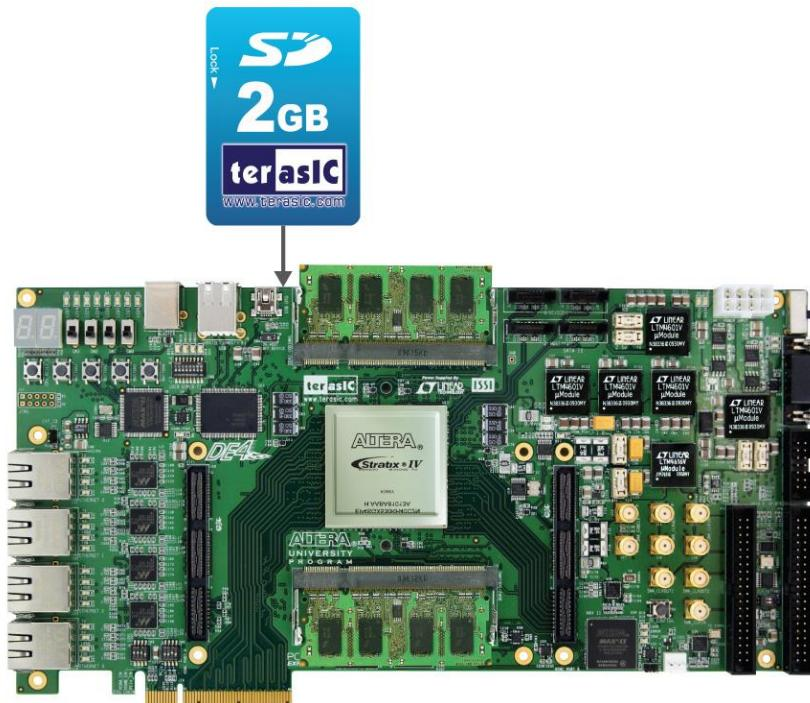

Figure 5–20 Insert SD Card for the SD-Card demonstration
- Insert the SD card into the SD Card socket of DE4, as shown in **Figure 5–20**.
- The program will display SD Card information, as shown in **Figure 5–21**.